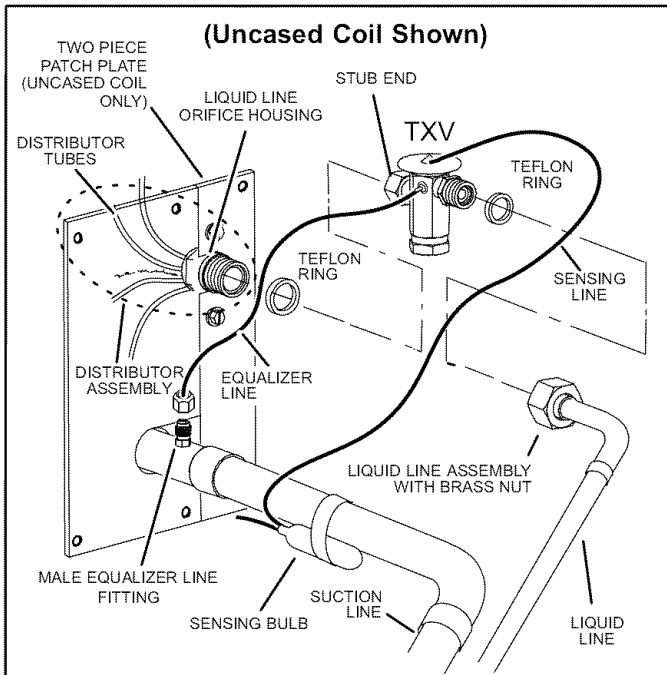

**Figure 20. Typical Fixed Orifice Removal**
4. Remove and discard fixed orifice, valve stem assembly if present and Teflon washer as illustrated in figure 20.